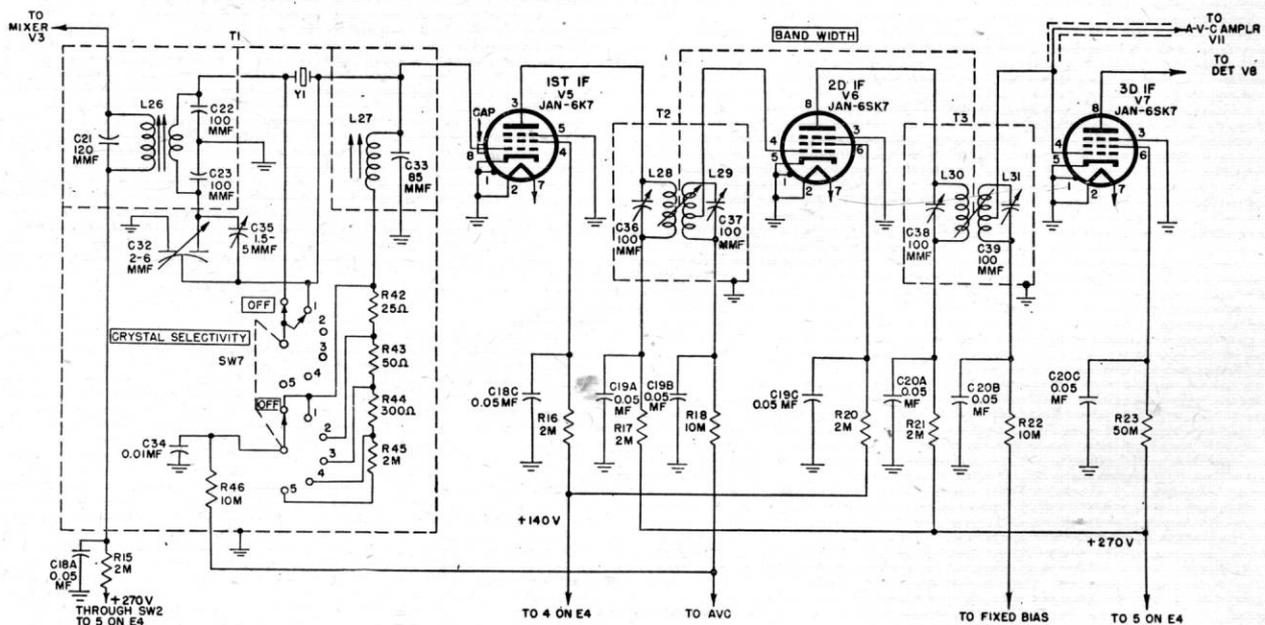

Figure 29. Radio Receiver BC-779-B, functional diagram of i-f amplifier.
## 62. I-F Amplifier (fig. 29)
a. **A-V-C AMPLIFIER TUBE JAN-6SK7 (V11).** The output of the 2d i-f stage, V6, is applied simultaneously to the 3d i-f stage, V7 (fig. 29),